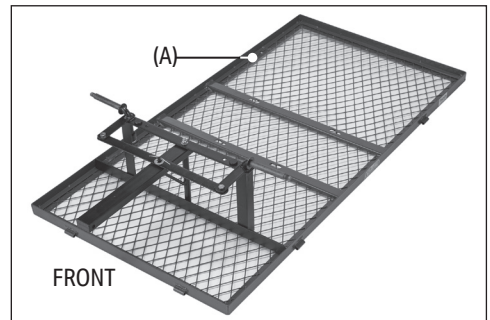

Fig. 7
- Place the cage bed (A) upside-down so that the two crossbars are facing upwards. (Fig. 7).